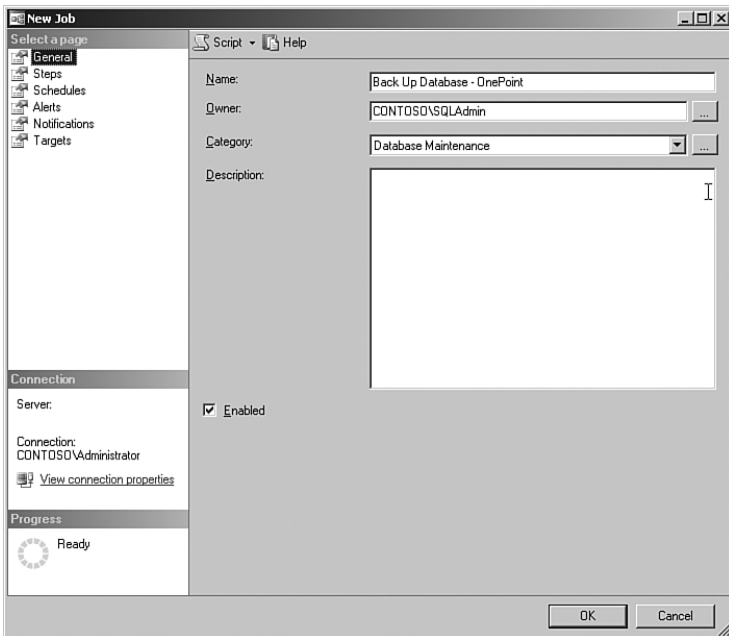

FIGURE 12.15 The new job screen.
8. Define the parameters of the backup job. When we selected the Script Action to Job option, it opens the New Job dialog. At the General page, we can change the owner and category of our job. In this case we will take the defaults shown in Figure 12.15.